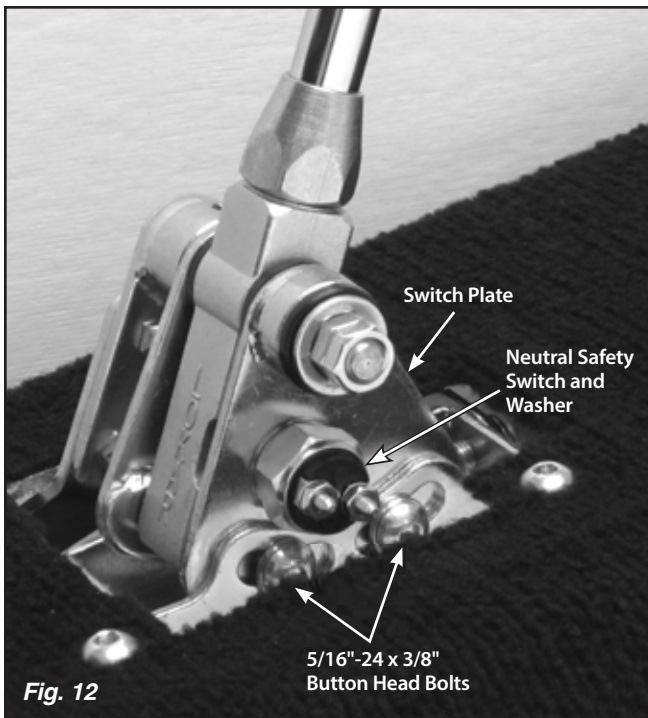

Fig. 12
Step 15: Remove the neutral safety switch and washer (**Fig. 12**) from the right side of the shifter using a 7/8" wrench or socket.
Step 16: Loosen, but do not remove, the two 5/16"-24 x 3/8" button head bolts that attach the **right** side of the floor mount mounting bracket to the switch plate (the bolts are in curved, slotted holes). **Fig. 12**